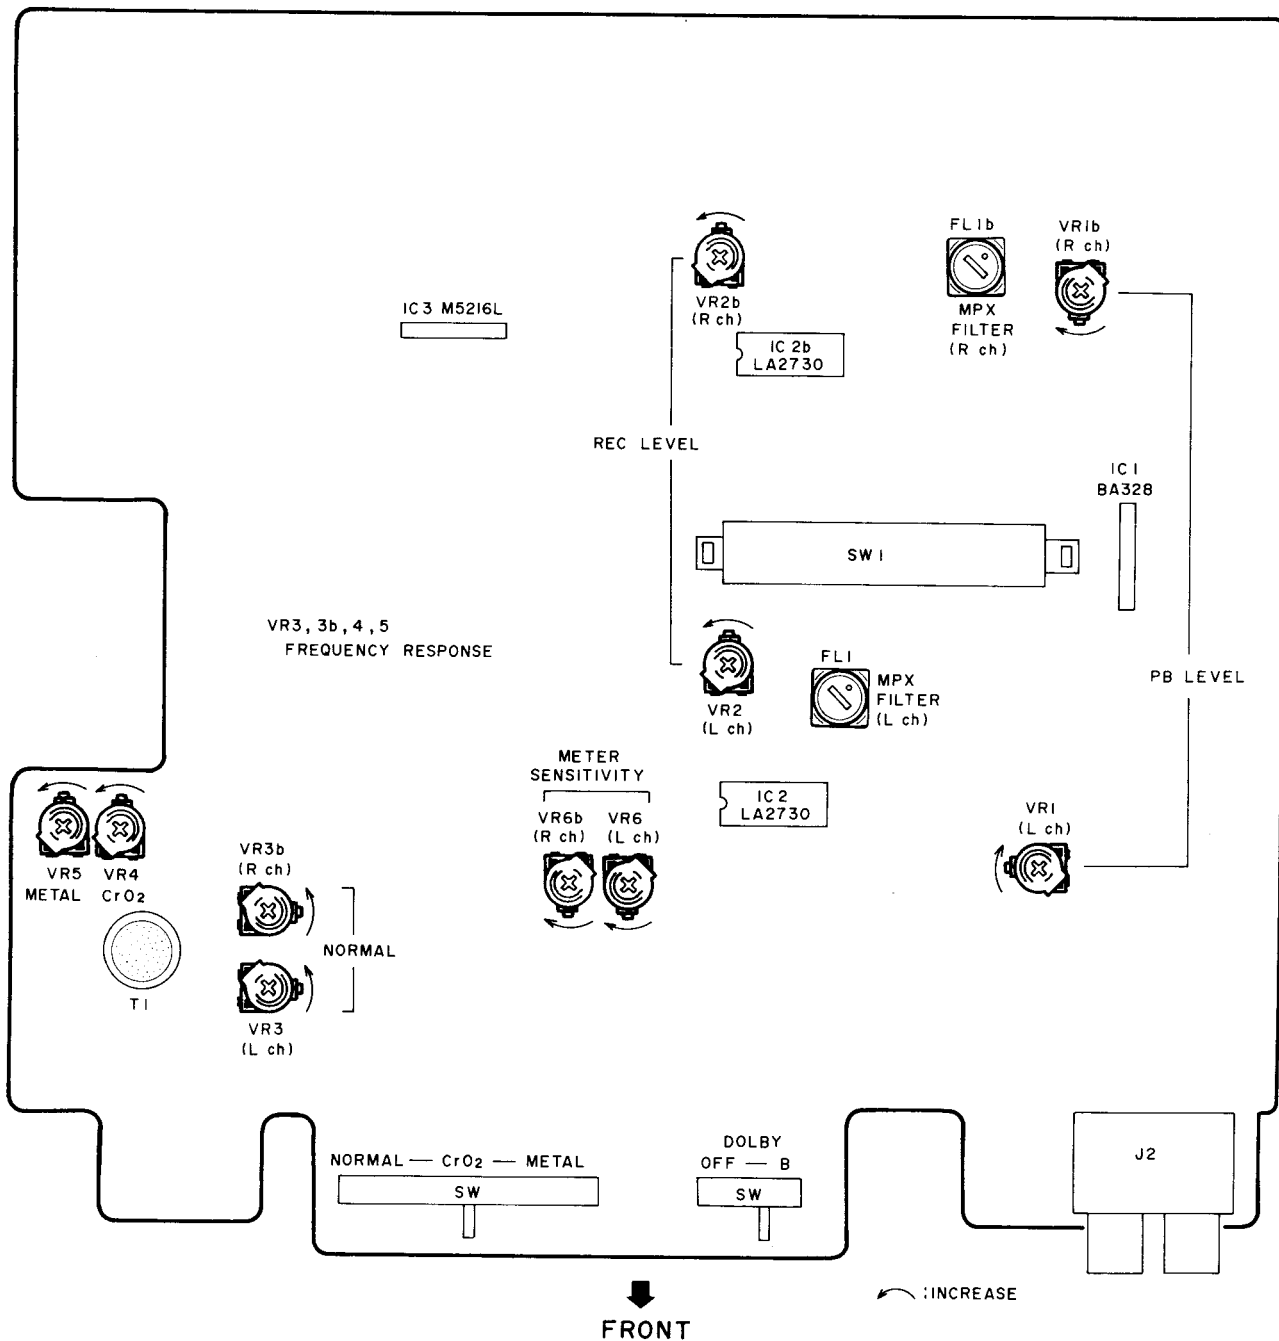

Fig. 6-1
3. Refer to Fig. 6-1 for the adjustments.